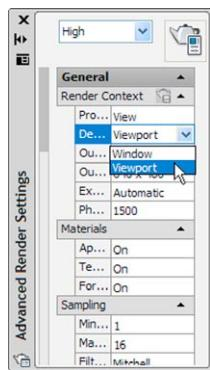

Fig. 15.19 The Advanced Render Settings dialog
7. *Enter rpref* at the command line. The **Advanced Render Settings** palette appears. In the palette, in the **Render Context** field *click* the arrow to the right of **Window** and in the popup menu which appears *click* **Viewport** as the rendering destination (Fig. 15.19).